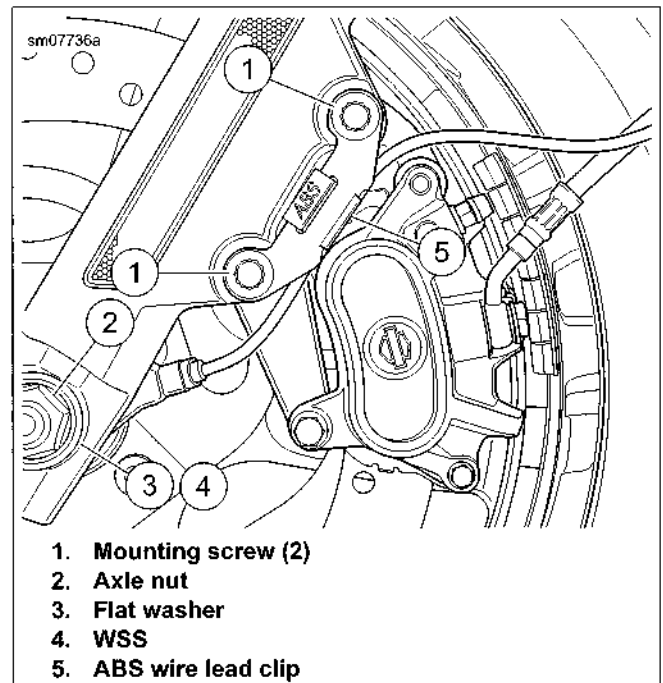
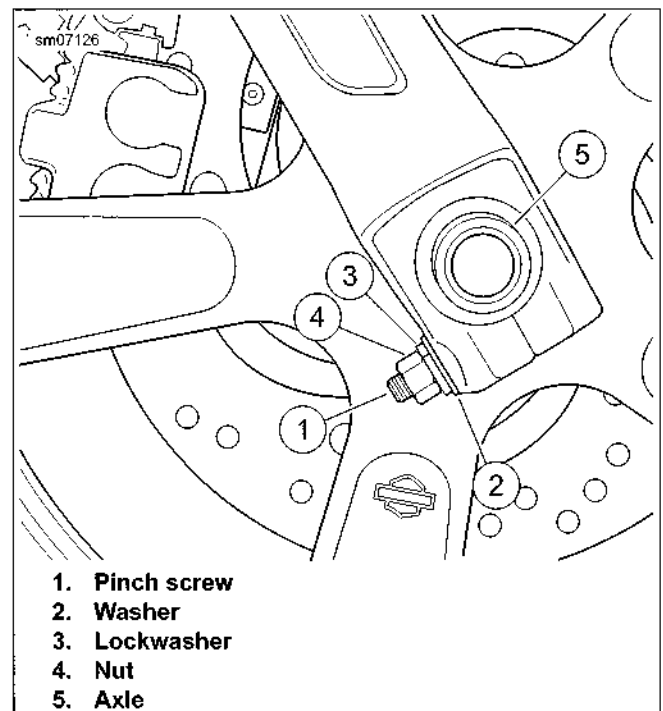

Figure 2-10. Left Side Front Wheel Mounting
Figure 2-11. Right Side Front Wheel Mounting
2. See Figure 2-10. Remove brake caliper mounting screws (1). Slide caliper off brake disc. Support caliper out of way.
4. Remove axle nut (2) and flat washer (3) from axle on left side.
5. See Figure 2-11. On right side, loosen nut (4) on pinch screw (1).